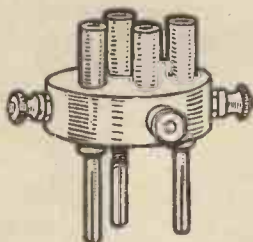

Fig. 2.—The valve socket adaptor.
In its simplest form the microscope is nothing more nor less than a magnifying glass, or series of magnifying glasses. Fig. 2 illustrates the arrangement in diagrammatic form, from which it will be seen that a metal tube is fitted with small lenses at each end. The lower end is fitted with a lens which magnifies the object situated immediately beneath it, and the upper end is fitted with a lens which magnifies the view produced by the first lens. From their use these two lenses are named the "object glass," or, more correctly, the "objective," and the "eye-piece." Actually the lenses have to be built up in a special manner to avoid various forms of distortion, but this article is merely an introduction to a hobby and
Fig. 2.—A diagrammatic representation of the optics of the simple microscope. The objective lens (OB) casts a magnified image of the object being viewed (O) of cases, but, where a point inside the tube (F), the microscope is to be used at night, an artificial light will be